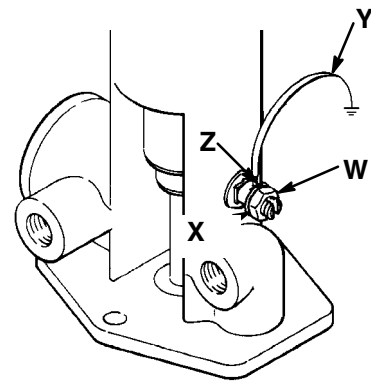

Fig 1
1. *Pump*: use a ground wire and clamp as shown in Fig 1.
To ground the pump, loosen the grounding lug locknut (W) and washer (X). Insert one end of a 1.5 mm² (12 ga) minimum ground wire (Y) into the slot in lug (Z) and tighten the locknut securely. See Fig 1. Connect the other end of the wire to a true earth ground. See **ACCESSORIES** on page 17 to order a ground wire and clamp.